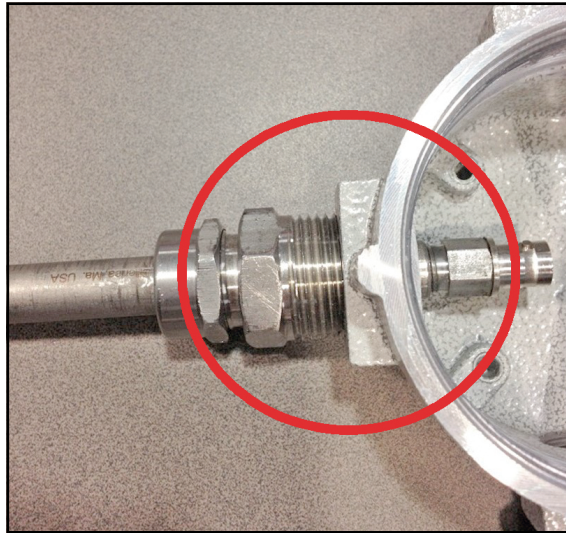

Figure 6: Torquing the NPT Reducer
2. Torque the fitting into one of the 3/4 in. NPT ports of the junction box with at least 5 threads engaged. After the fitting is torqued into place, ensure that the BNC head of the transducer extends slightly past the ground screw bosses, as shown in *Figure 6* below:
3. If the BNC head extends too far into the junction box, it will make the assembly more difficult to install by reducing the amount of area needed to properly store the excess cable. If the BNC head is not positioned approximately where it is pictured in *Figure 6* above, loosen the compression fitting and adjust the transducer. Then, re-tighten the compression fitting.